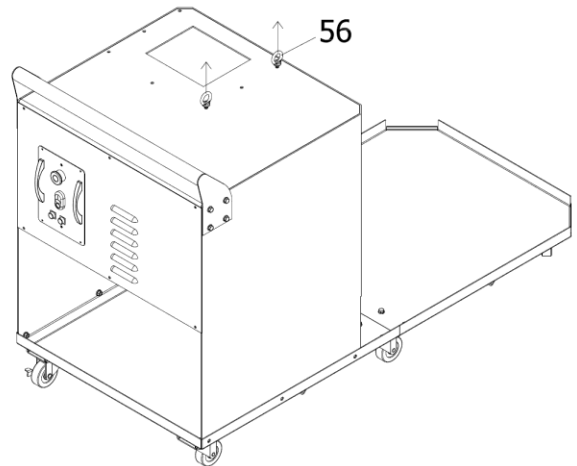

Figure 8-3: Setup Installation Cont'd
6. Remove the Hanger (NO. 56) from the Main Housing. See Figure 8-3.